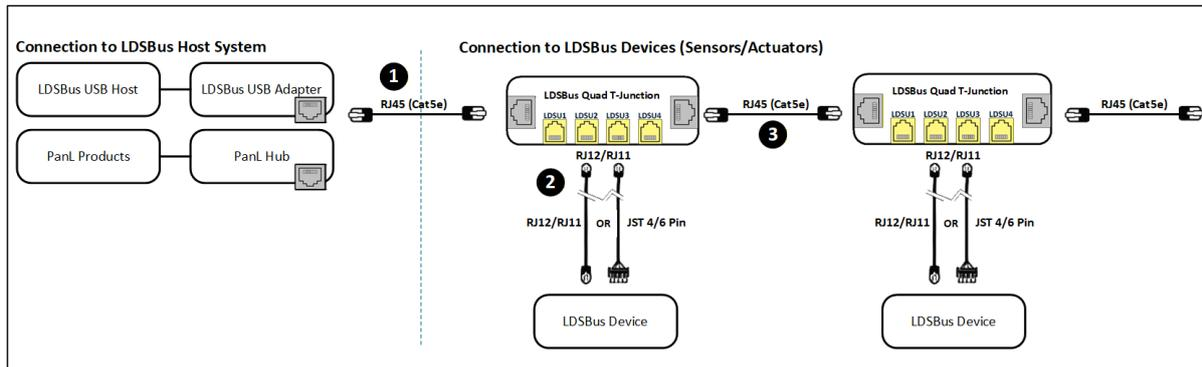

Figure 2 - Connection Diagram
Figure 2 illustrates the connection of the LDSBus Trailing Edge Light Dimmer (LDSBus Device) to the LDSBus. Please visit <https://brtsys.com/resources> to view the full device application, setup and installation guides.
1. Connect the first LDSBus Quad T-Junction to any of the LDSBus Host System using a RJ45(CAT5e) cable as shown in Figure 2.
2. Connect the configured LDSBus Trailing Edge Light Dimmer to the LDSBus Quad T-Junction as shown in Figure 2.
3. If there are more than one LDSBus Quad T-Junctions, chain them together as shown in Figure 2.